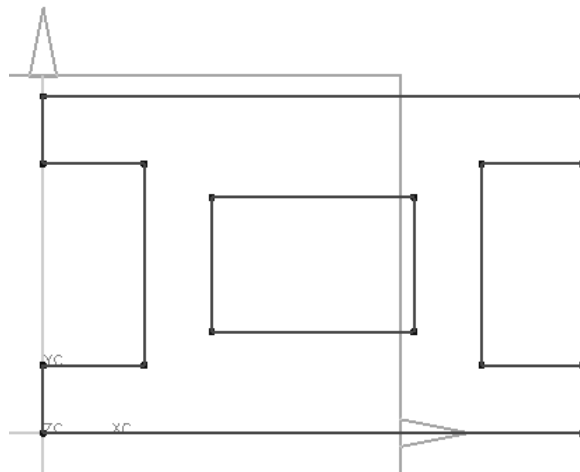

Figure 1-53 Final sketch for Tutorial 3
5. Press the ESC key twice to exit the tool. The final sketch for Tutorial 3 is shown in Figure 1-53.